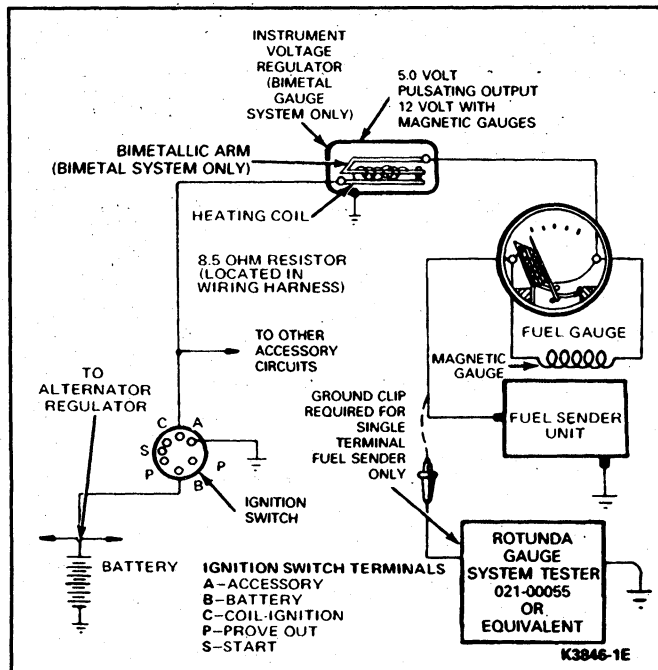

FIG. 9 Fuel Indicating System Test with Rotunda Tester 021-00055 or Equivalent—Econoline
1. Disconnect connector from fuel sender and hook onto the matching terminals on the tester (Fig. 9).
With the tester switch in either the HIGH or LOW position, the center line of the gauge pointer should be within, or the pointer edge touching, the "F" or "E" white band of the graphics for the fuel test function as shown on the tester after two minutes (Fig. 9). If the